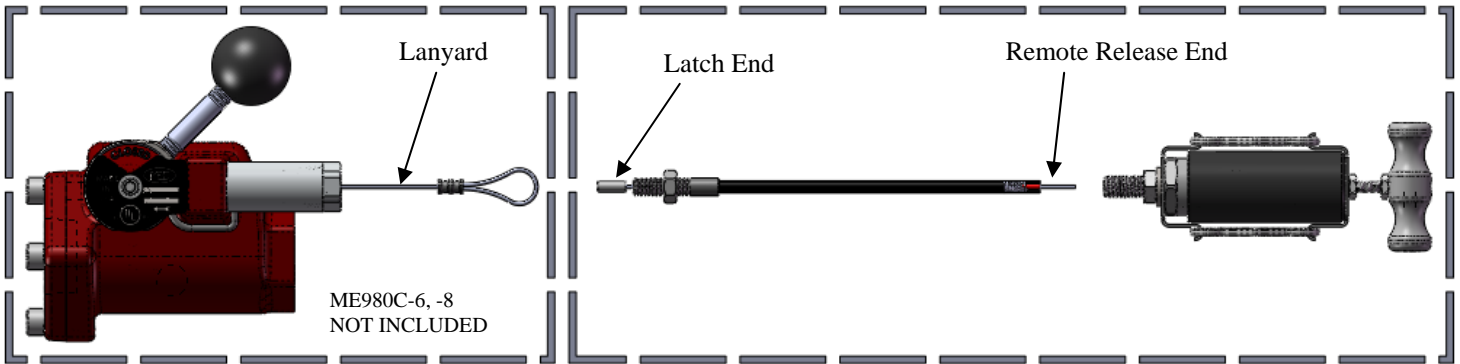

Figure 1
2. If it is necessary to cut the cable to a shorter length, pull about one foot of inner cable from the ME980 latch cable end (end with the 3/16 by 1/2" long cylindrical cast fitting, (see Figure 1) from the housing).